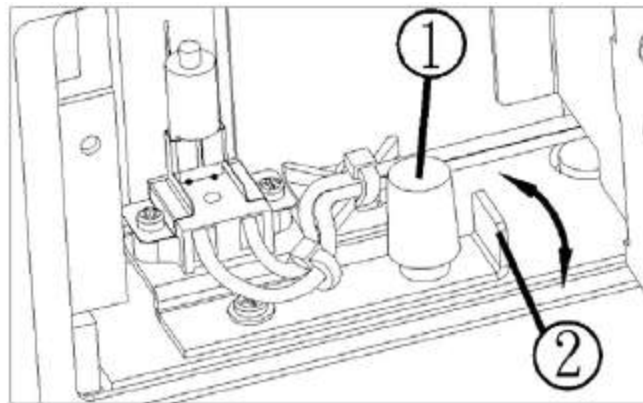

Figure 5b: Lamp tuning
11. In the lamp house (see figure 5b), loosen the white thumbscrew (#1) and adjust the vertical flange (#2) close to it forward/ backward. The displayed number XXX will vary in accordance with flange movement. Find the largest number and tighten the thumbscrew.